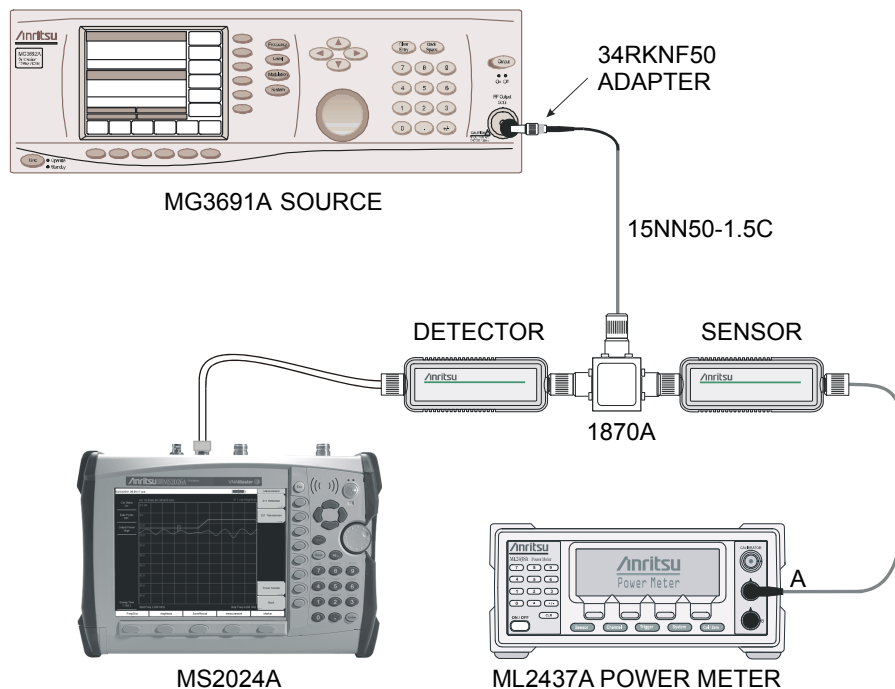

Figure 3. Power Monitor Verification Test Setup
6. Connect MG3691A, power meter, RF detector, and sensor as shown in Figure 3.